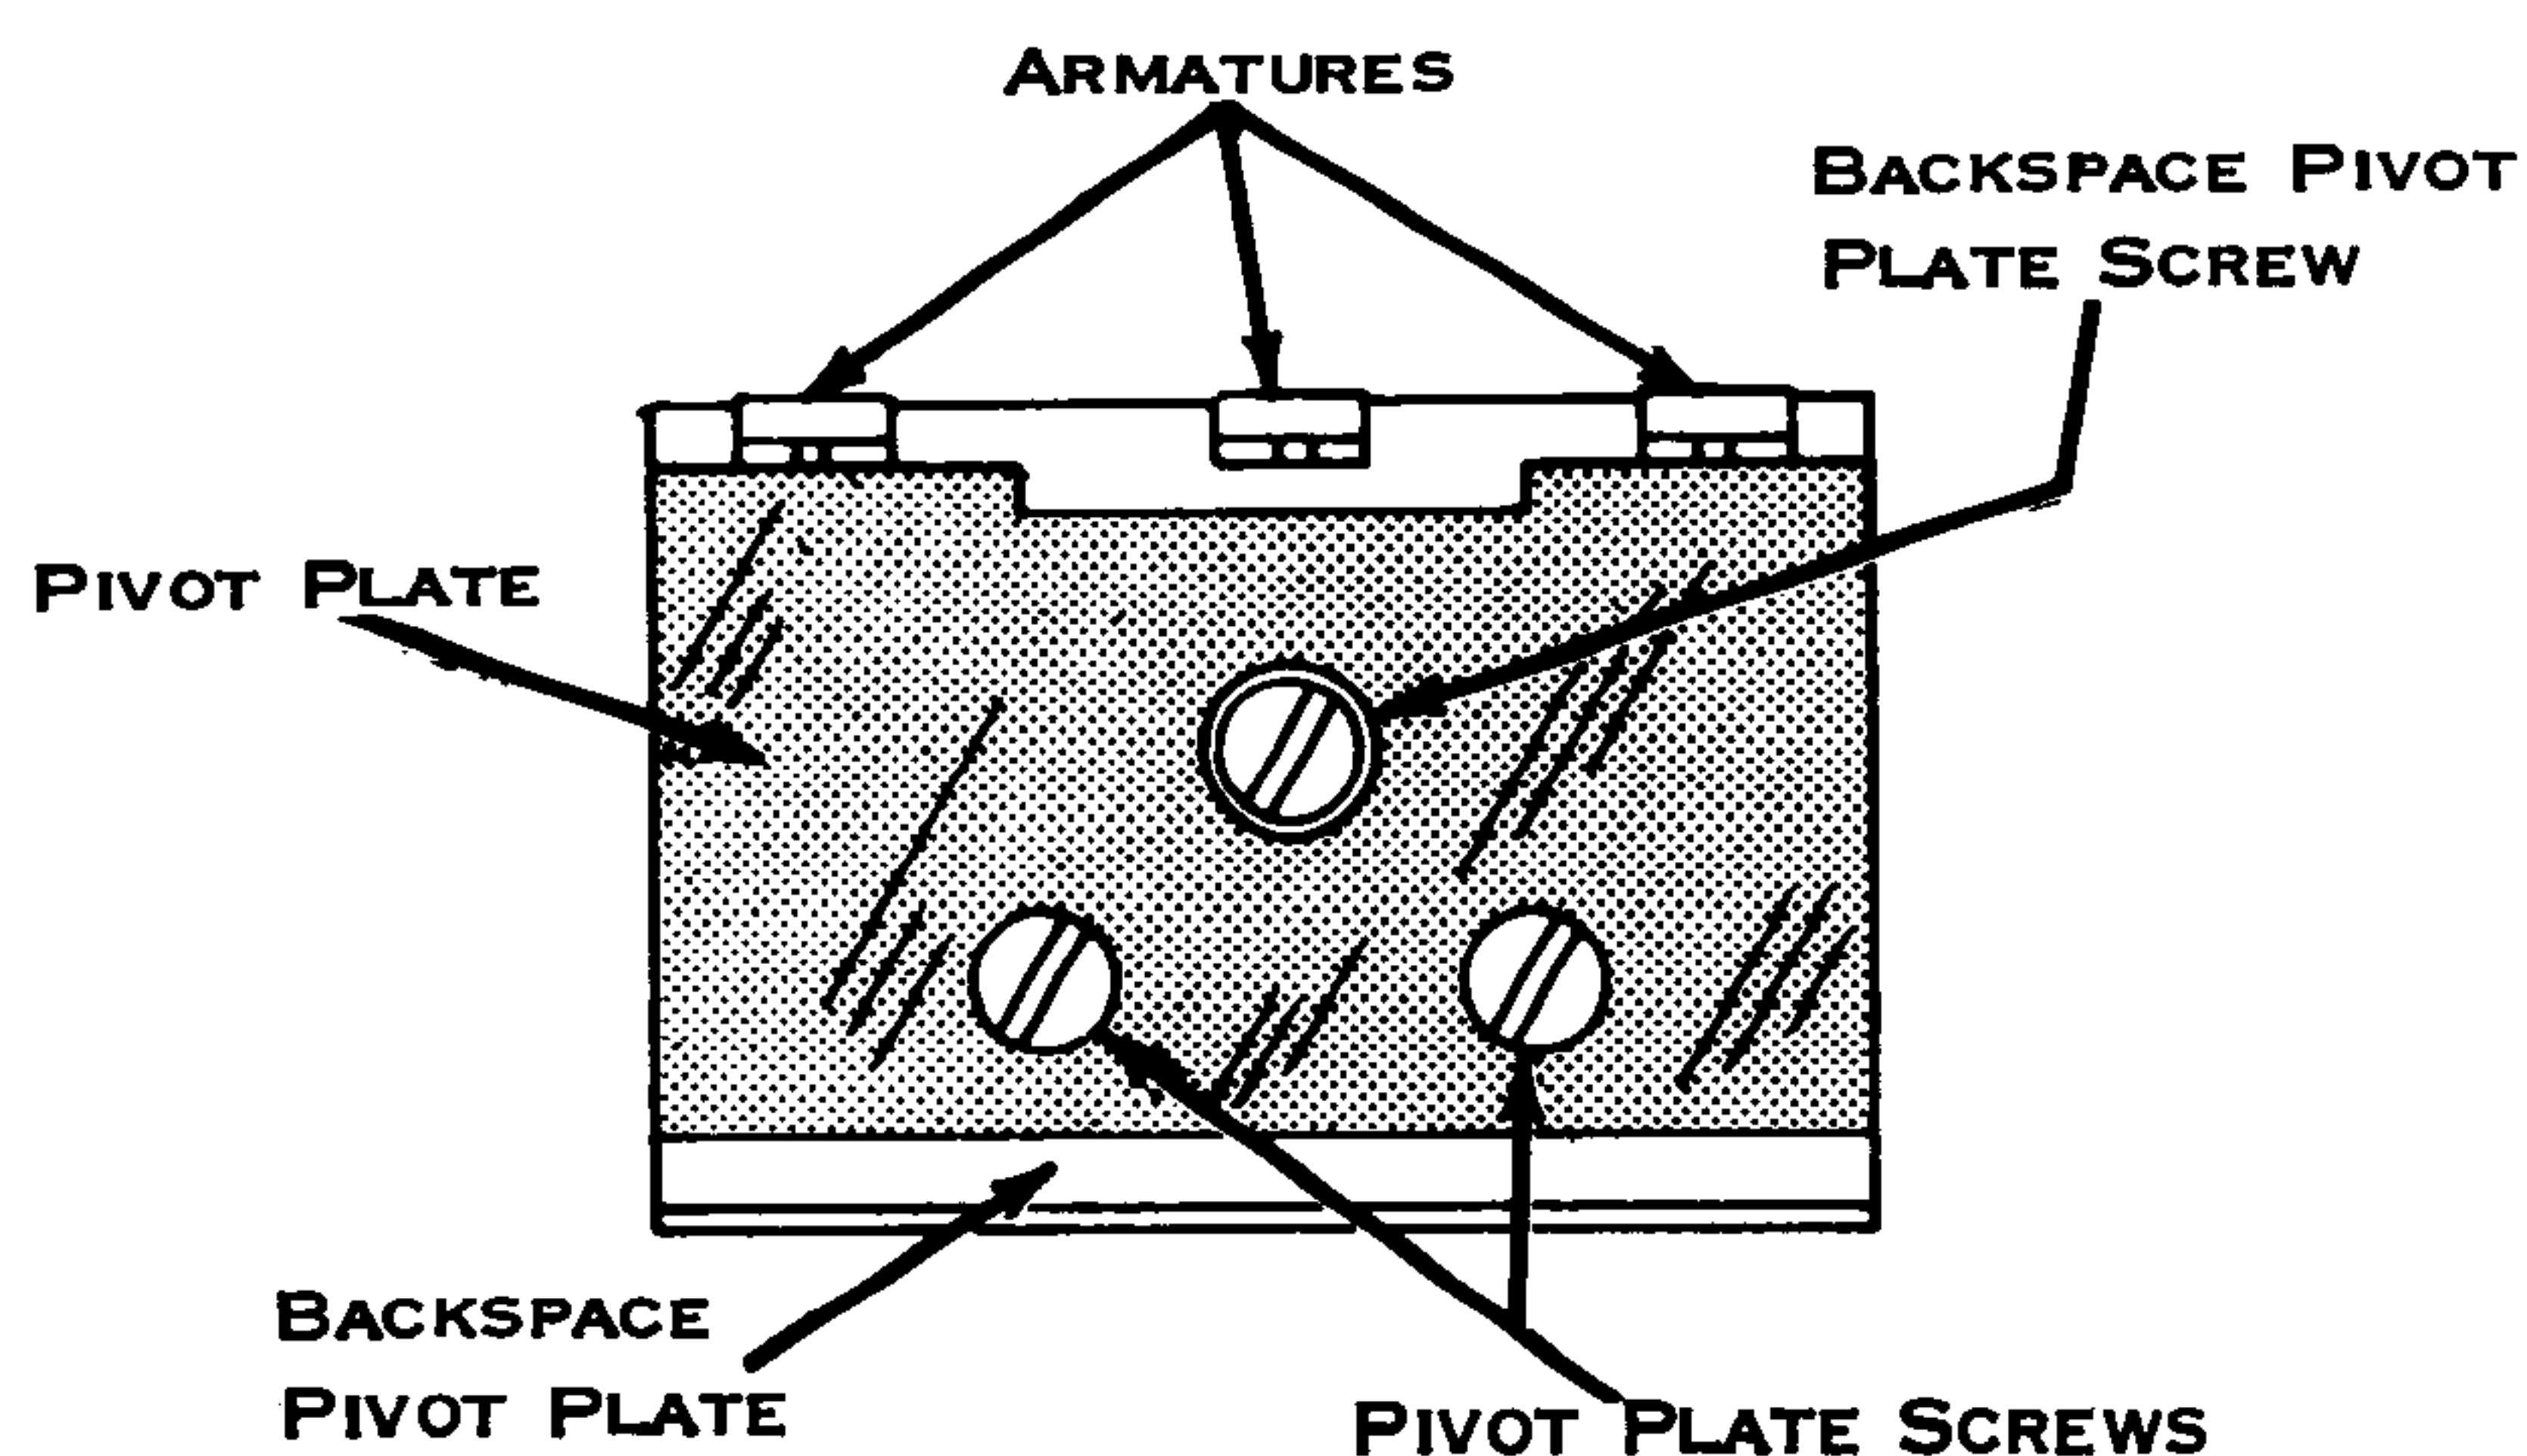

Figure 127. B/S Pivot Plate Location
1. Tab, Backspace, and Index Magnets (Fig. 127 & 128) -